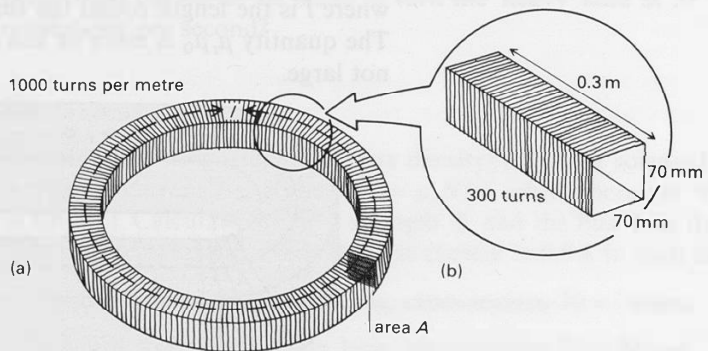

Figure H90
A calculation of the 'flow' of flux in a straight solenoid, such as that shown in figure H90(b), is complicated by the difficulty of working out what happens at the ends. One way of avoiding the difficulty is to regard the solenoid as part of a very long one whose ends are brought round to meet each other, as in figure H90(a).
- a The reluctance of the large, closed solenoid pipe shown in figure H90(a) is given by $l/\mu_0 A$, where l is the length all around the pipe, and A is its cross-sectional area. Calculate the contribution to this reluctance by the shorter, almost straight section in figure H90(b).